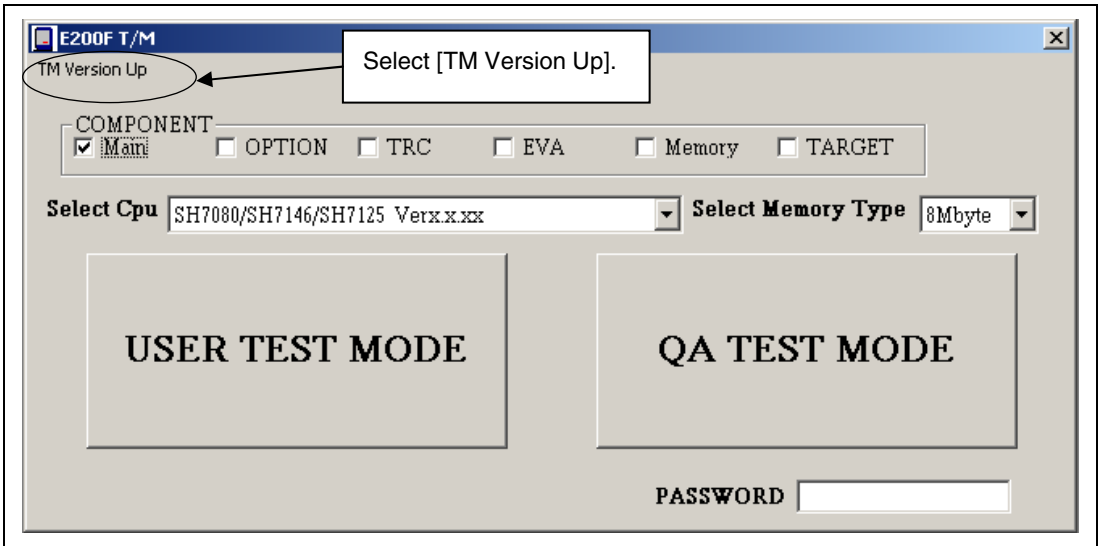

Figure 3.11 Initial Screen of the E200F Diagnostic Program
4. The diagnostic program of the emulator is started and the initial screen (figure 3.11) is displayed.
10. The initial screen of the E200F diagnostic program is displayed (figure 3.11).